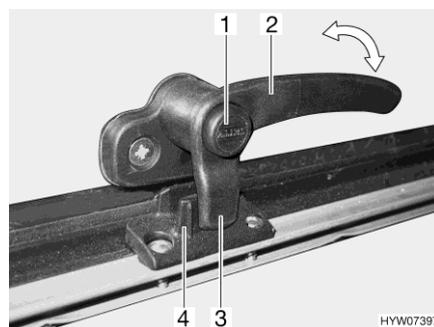
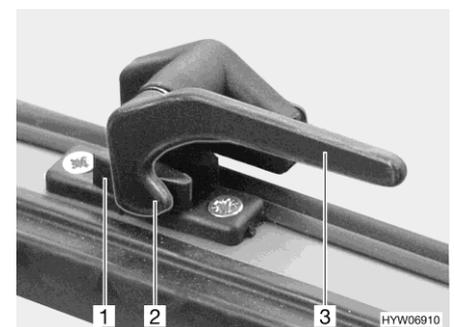

Fig. 97 Catch lever with safety knob in "closed" position
Fig. 98 Catch lever in "closed" position
- Press and hold the security button (Fig. 97,1), if present.
- Turn the catch lever (Fig. 97,2 or Fig. 98,3) a quarter turn towards the centre of the window.
- Turn the catch lever (Fig. 97,2 or Fig. 98,3) a quarter turn towards the window frame.
- The locking catch (Fig. 97,3 or Fig. 98,2) on the catch lever is entirely on the inner side of the window catch (Fig. 97,4 or Fig. 98,1).
- "Firmly closed" (Fig. 97 and Fig. 98)